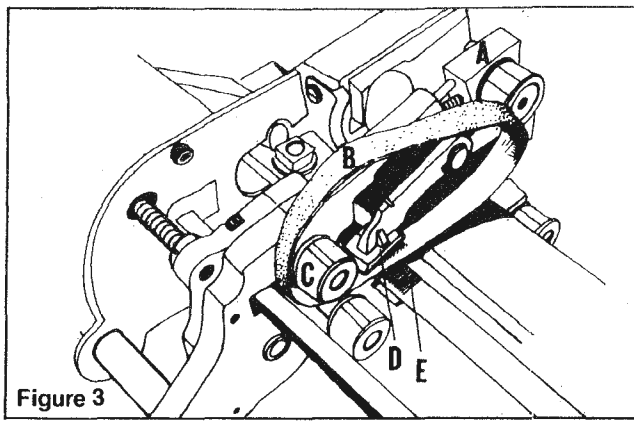

Figure 3
- b) Figure 3: Slip new FlexiBand "B" over Drive Pulley "C" and between Band Plate "D" and Blade "E." Push Block "A" forward and slide FlexiBand over it. Release Block "A."